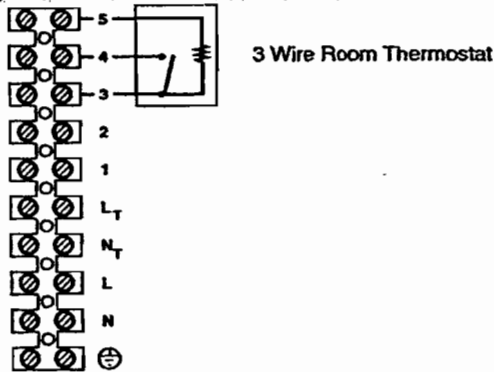

Fig. 35
3. To fit a 3-wire thermostat, remove link and wire the thermostat switch between positions 3 & 4. The anticipator should be wired to position 5, as this provides a continuous mains neutral (Fig. 35).